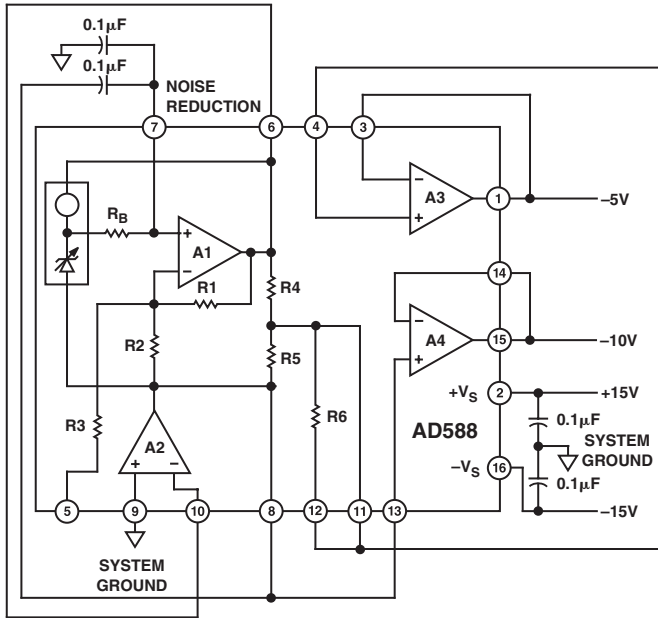

Figure 2c. -10 V Output
-10 V	Figure 2c
Note that a second capacitor is needed in order to implement the NOISE REDUCTION feature when using the AD588 in the -10 V mode (Figure 2c.). The NOISE REDUCTION capacitor is limited to $0.1 \mu\text{F}$ maximum in this mode.